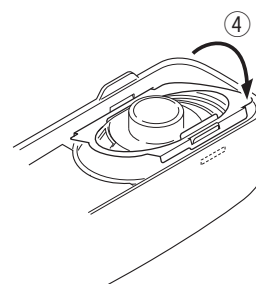

Fig. 7-3
6. Insert the hardware fixture (J21-8481-03) into the hollow of the panel as shown in Figure 7-3, then push two parts of the hardware fixture and fit it into the hollow of the top of the panel. (Fig. 7-3 ④)